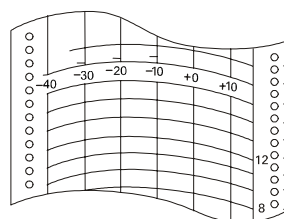

Fig. 1
1. The information on the recording paper is shown in Fig. 1.
1. Slightly raise the end of the pen lifter and remove from the lifter stopper. Then rotate clockwise as shown in Fig. 1.